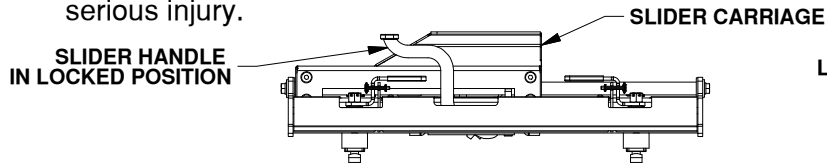

Figure A1: View of driver side of Slider Base.
**WARNING:** Whenever the slider base is being moved, the slider handle must be in the locked position, and the carriage must be unable to slide, see Figure A1. Failure to ensure that the handle is in the locked position can lead to property damage, or serious injury.